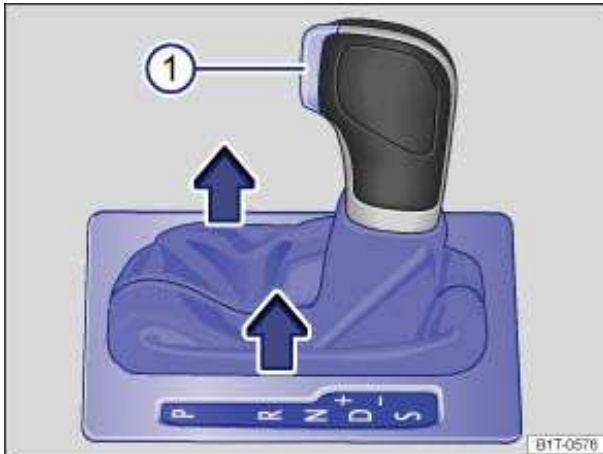

Fig. 167 Removing the selector gate cover.
- Pull upward on the cover around the selector lever sleeve ⇒ fig. 167.
- Press the release button ⇒ fig. 167 \(1\) in the selector lever handle and shift the selector lever to Neutral **(N)**.